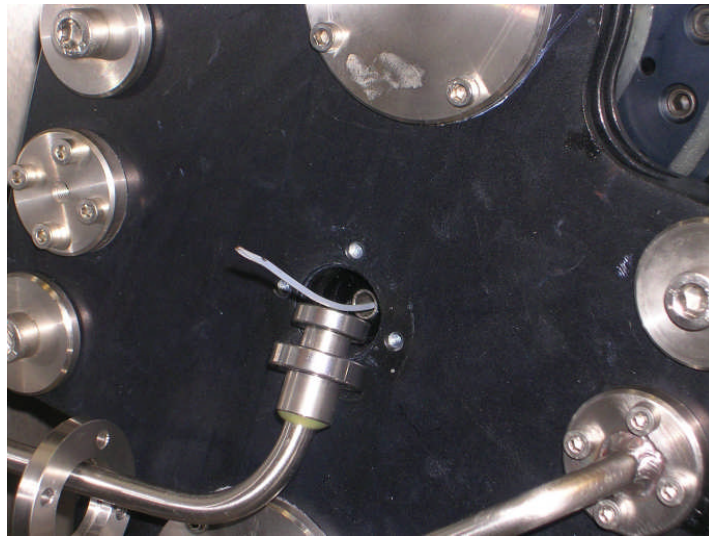
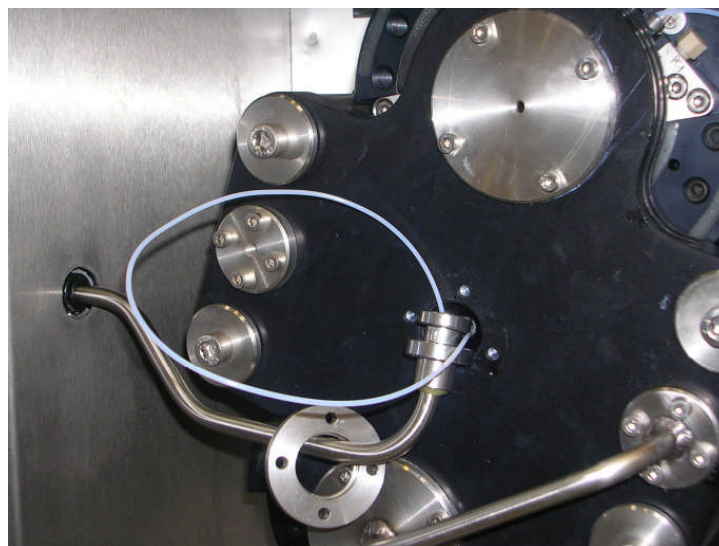

Figure 5 Shows a flying lead appearing from the central hole in the front of the rotor
Figure 6 Shows the flying lead fed into the central flying lead guide
- 11) Originate the curved-tapered end of the lead so that it is pointing towards the **BACK** of the instrument and then push into the hole. Keep feeding the lead until it appears from the central hole in the rotor, see Figure 5. Pass the lead through the detached flying lead guide and then through the hole in the liner to the outside of the instrument, see Figure 6. Label this end of the lead with the same letters and numbers as those engraved on the stainless steel connection block to which it is connected.